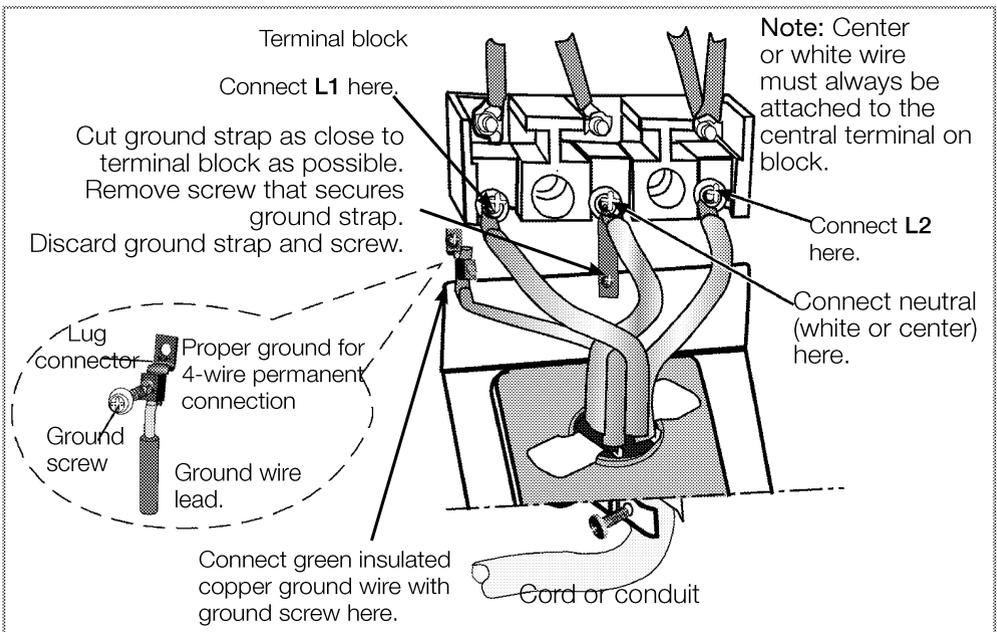

Fig. 9- 4 wire
c- Connect neutral terminal or lead to branch circuit neutral in usual manner (when the appliance is to be connected by means of a cord kit, use 4-conductor cord or conduit for this purpose) See fig.9.
- 4 -See Figure 8 for 3 wire power connection and figure 9 for 4 wire connection.
right terminals of the terminal block. The grounding lead must be connected to the copper grounding lug as shown in the figure 9 above.